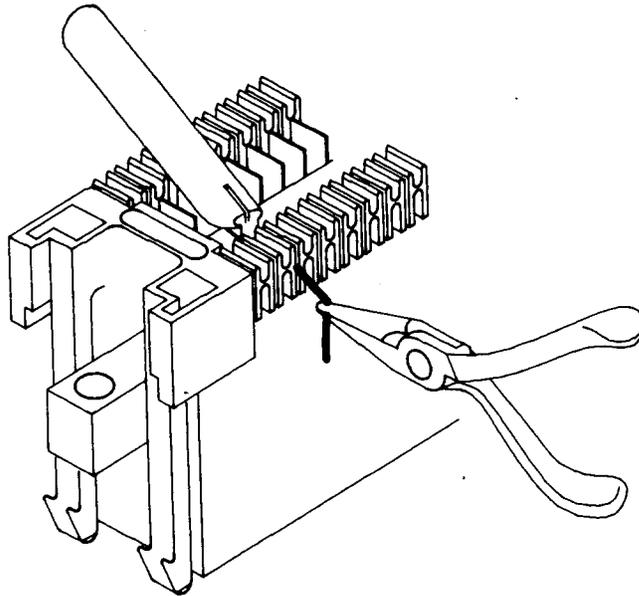

Fig. 8—Removing Damaged Wire From 645042 Amp Connector
- 4.03 To remove a damaged wire from the 645042 Amp card edge connector, place the hold-down end of the repair tool against the top of the appropriate terminal (Fig. 8). Apply pressure to the contact with the tool and grasp the wire near the connector with a long nose pliers and pull the wire free.